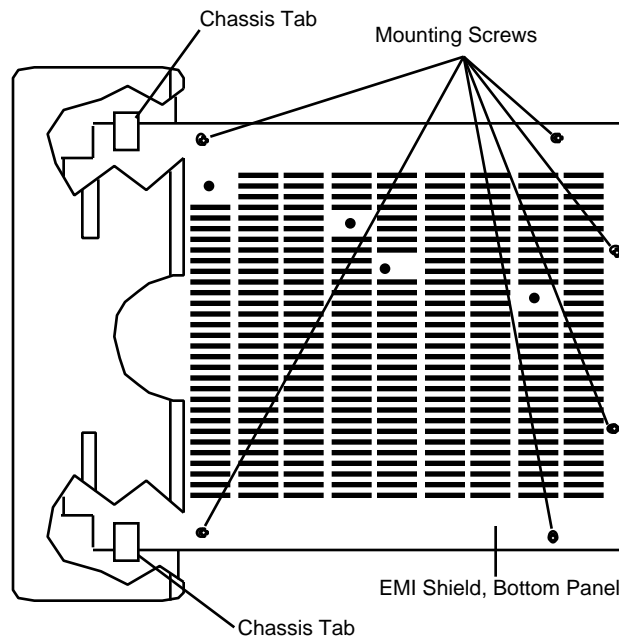

FIGURE 3
6. Remove the six screws that secure the bottom panel of the EMI shield to the chassis (Figure 3). Pull the bottom panel off the chassis.
2. Push the notched end of the bottom panel under the two chassis tabs as shown in Figure 3. Then align the holes in the bottom panel and the chassis, and install the six mounting screws.